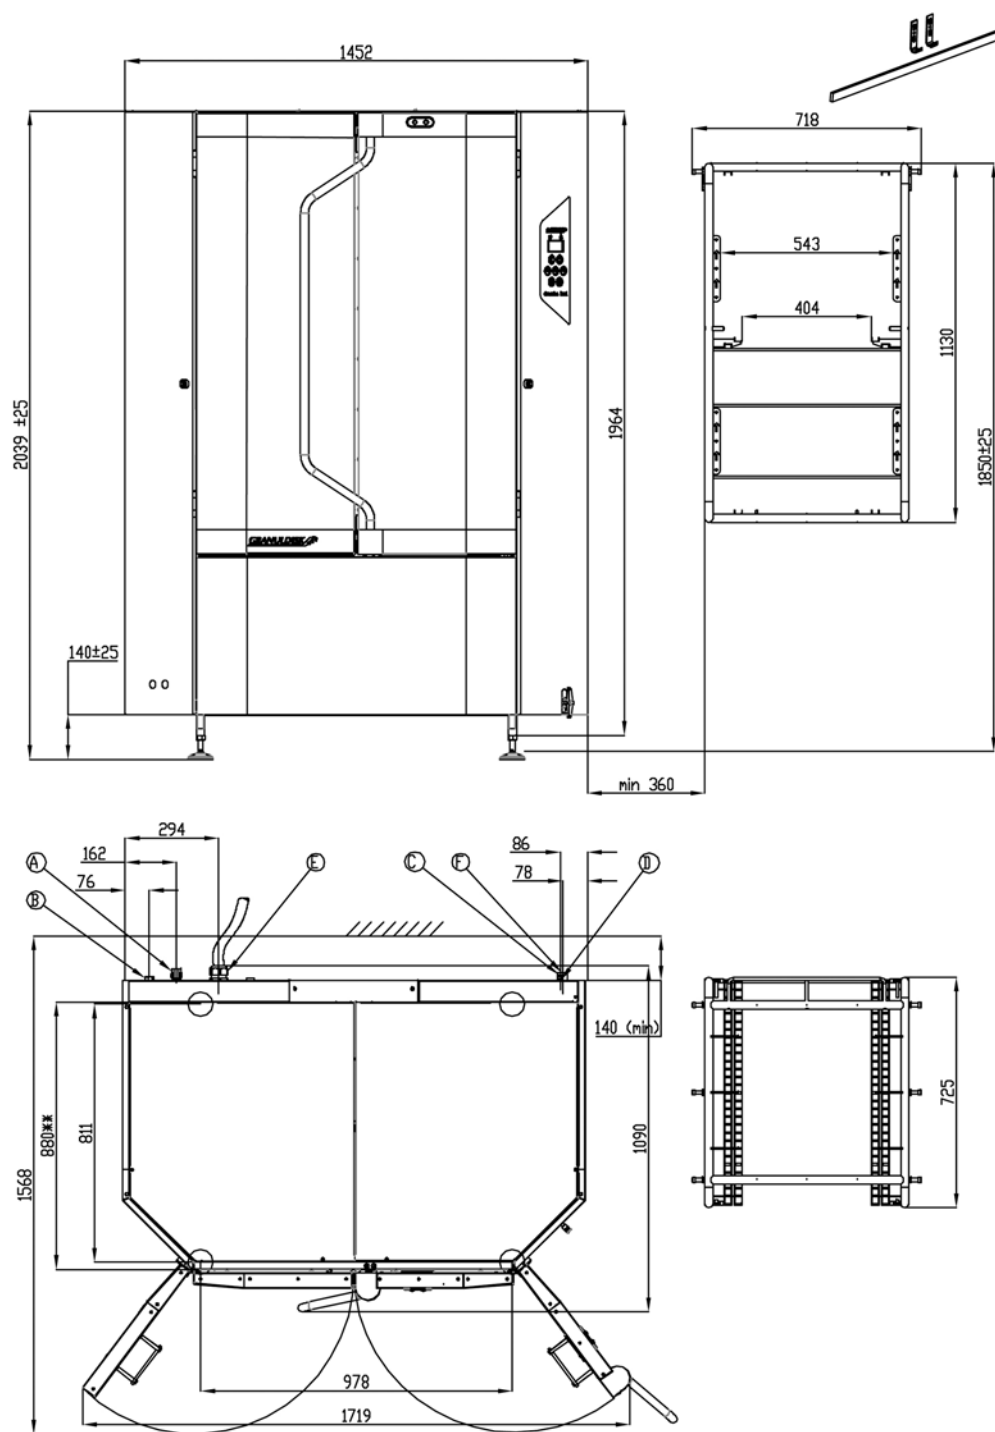

Figure 5:
8. Tilt the machine with caution until it rests on the pallets. Figure 5 and 6. The machine can now be moved.